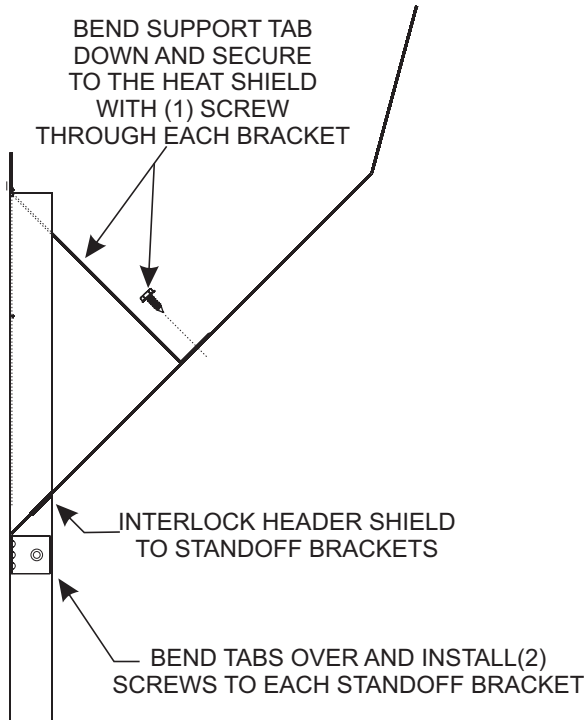

Figure 26
1. The Header Shield and (3) Top Standoffs are shipped with the fireplace. Pre-assemble the Header Shield to the Top Standoff brackets, before installing to the top of the fireplace and framing header. See Figures 26, 27 and 28.